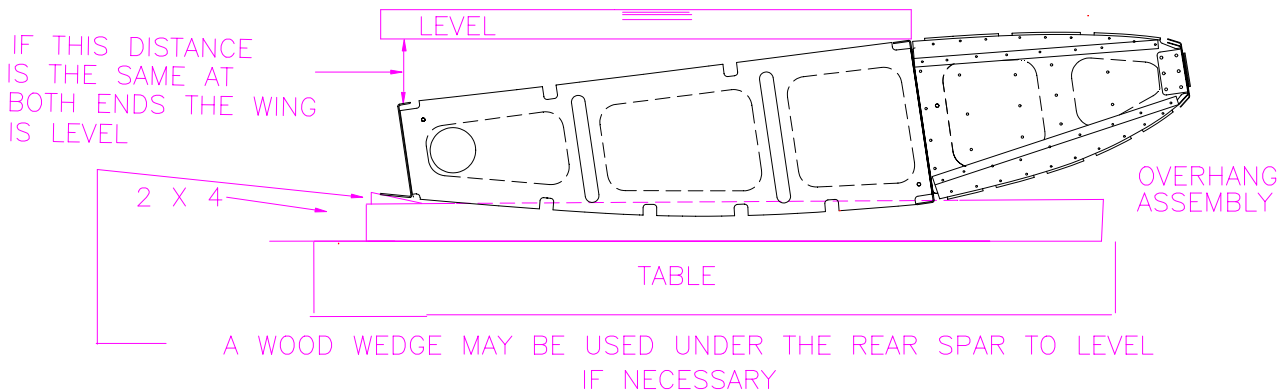

Figure 8.16.1
1) Place the Wing assembly upside down on the table on two 2” x 4”s. Figure 8.16.1.